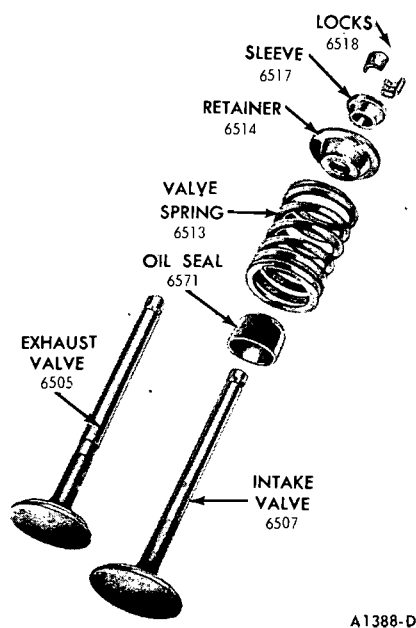

FIG. 26—Typical Valve Assembly
2. Install each valve (Fig. 26) in the valve guide from which it was
1. Oil the timing chain. Position the sprockets and timing chain on the camshaft and crankshaft. Be sure the timing marks on the sprockets and chain are positioned as shown in Fig. 26. Install the camshaft sprocket retaining bolt and washer. Torque the bolt to specifications. Install the oil slinger so that the raised side of the embossed pointer is facing outward.